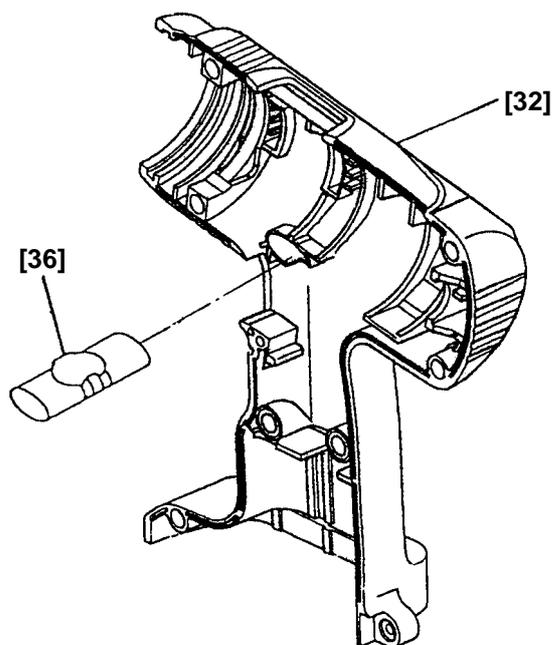

Fig. 12
(4) Installation of the assembly reassembled in step (3) into Housing (A). (B) Set [32]
(a) Install the Pushing Button [36] into Housing (B) [32]. (See Fig. 12.)